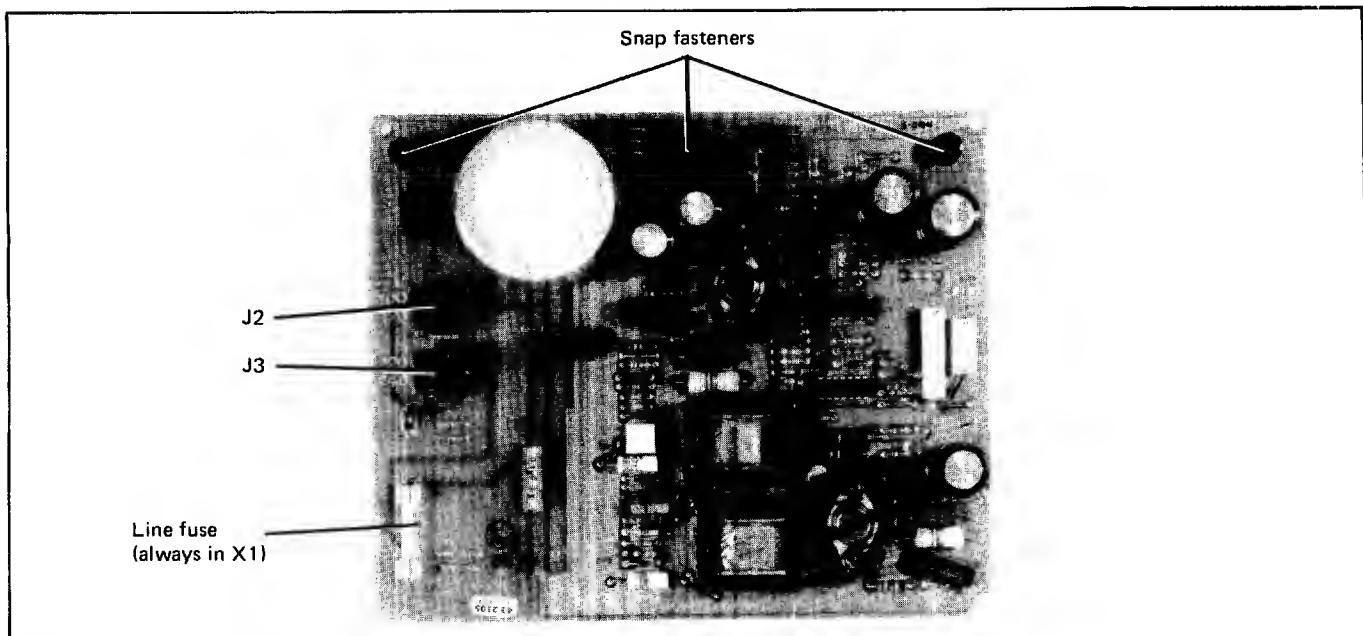

Figure 7-7 2621B Power Supply
- 2. At top of the Power Supply PCA, pull outwardly on each of the three snap fasteners securing PCA to mainframe (see figure 7-7).